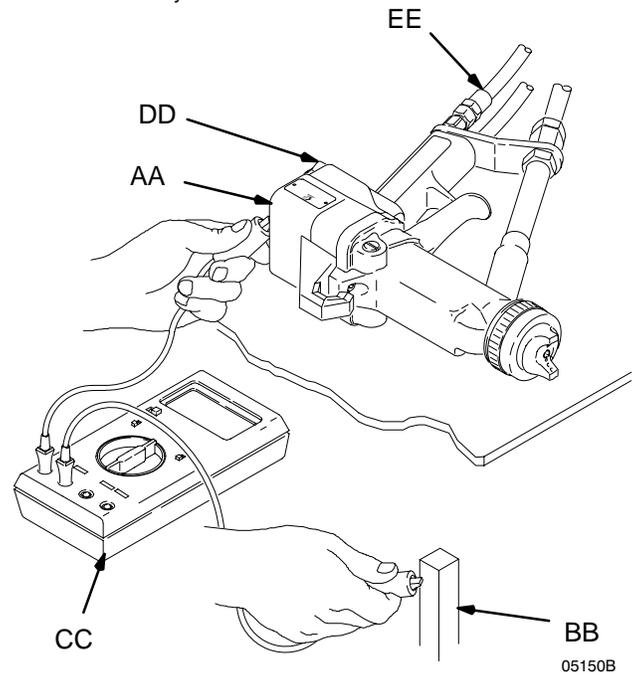

Fig. 7
2. Make sure the red Graco electrically conductive air hose (EE) is connected to the gun and the hose ground wire is connected to a true earth ground. See Fig. 7.
4. Turn the gun ES ON-OFF lever (DD) to OFF.
5. Measure the resistance between the gun handle (AA) and a true earth ground (BB) with an ohmmeter (CC). Resistance should not exceed 100 ohms.
### KEY- Fig. 7